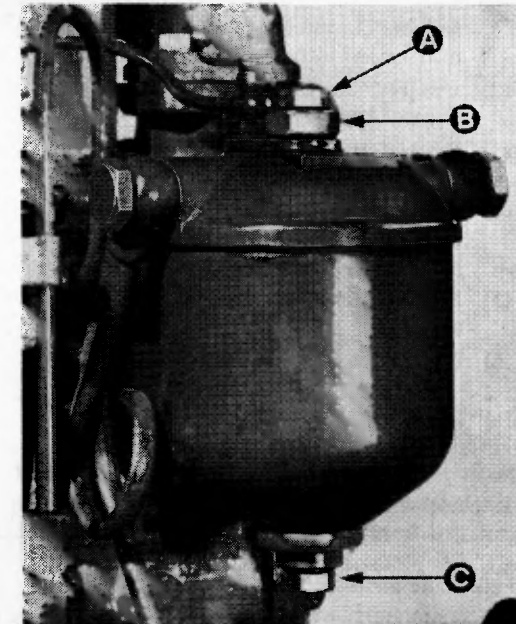

Fig. 38
- (1) Release the filter bowl drain plug (see Fig. 38) and drain the fuel in the bowl into a suitable receptacle.
- (2) Unscrew the cap nut (see Fig. 38) and withdraw the bowl and element complete.
- (3) Discard the element, thoroughly wash out the bowl in petrol (gasoline), and allow it to dry.
- (4) Install a new element in the filter bowl with the perforated end facing downwards, ensuring that the rubber sealing washer is in good condition and correctly positioned in the filter head.
- (5) Refit the filter bowl and element and tighten the cap nut and drain plug.
- (6) Bleed the fuel system (see below).
First bleed the C.A.V. fuel filter interposed between the fuel lift pump and the fuel injection pump. Slacken the bleed plug on the filter head (see Fig. 38) and operate the hand priming lever on the fuel lift pump until the fuel flowing from the bleed plug is free from air bubbles, then retighten the bleed plug.